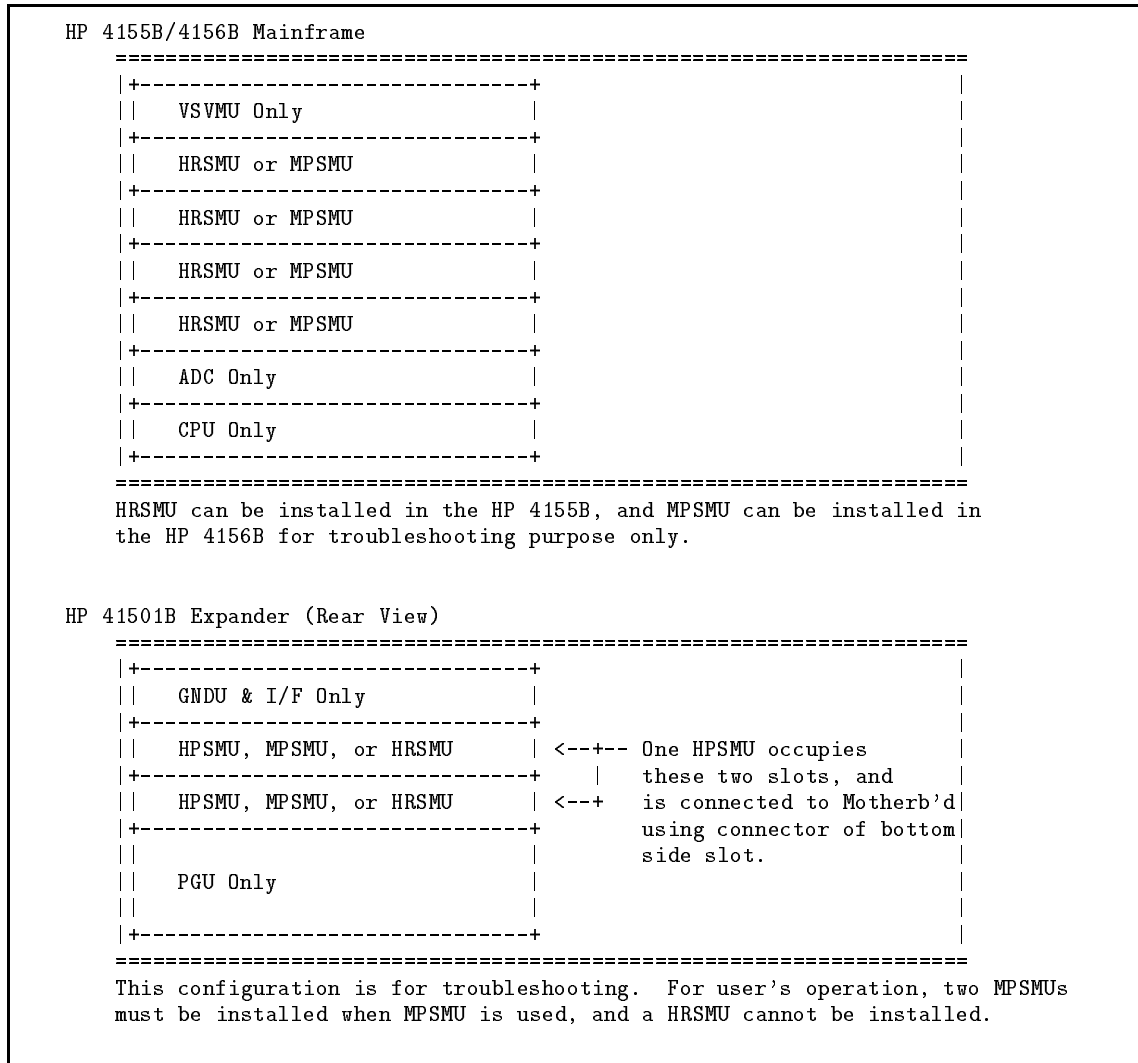

Figure 5-11. Installable Slots for SMU
- If an SMU fails, swap the SMUs in SMU1/2/3/4 slots. Watch whether the failure moves or not. If the failure moves, suspect the moved SMU. If not, suspect the slot (ADC, Motherboard, or CPU). Figure 5-11 shows installable slots for SMU.